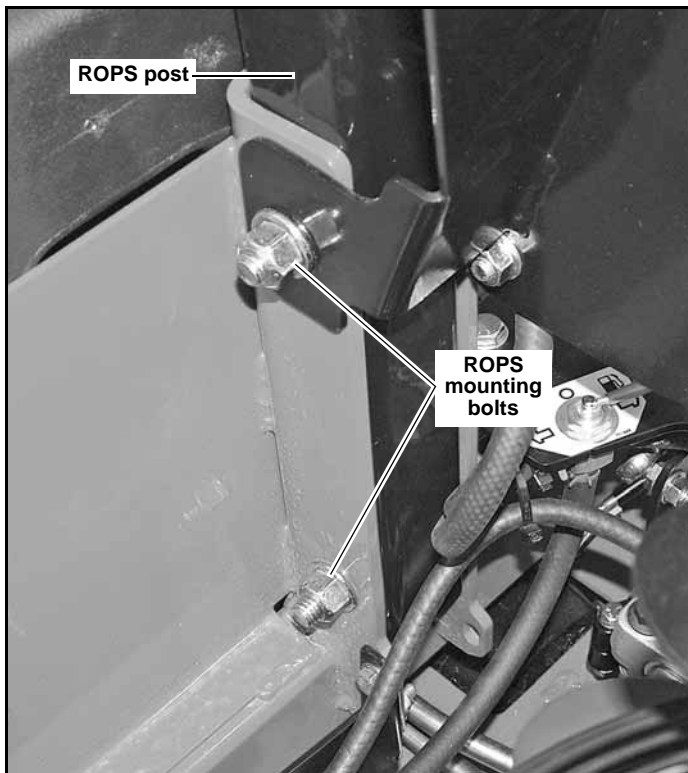

Figure 3-7
1. Check the torque of the ROPS mounting bolts. Tighten the bolts to the correct torques as shown below if necessary. Figure 3-7